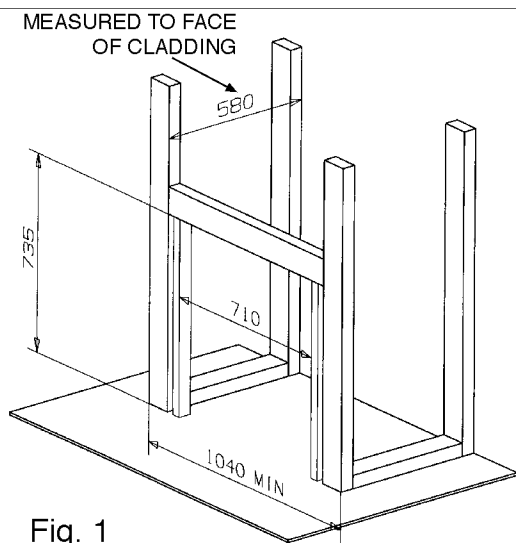

Fig. 1
3. Frame up the enclosure as shown in Fig. 1. The frame should provide a recess 710mm wide and at least 580mm deep (measured from the face of the cladding material or from any tiles etc. that may be fixed to the cladding material). The overall width of the frame must be not less than 1040mm to accommodate the fascia width and to ensure a safe
clearance to any combustible material should there be a room side-wall abutting the enclosure. The opening must have two timber uprights spaced 710mm (between) at the front. The bearer rails on the base of the outer steel cabinet will sit directly on the floor. No insulation is needed on top of the floor in the recess. (See Fig. 1).